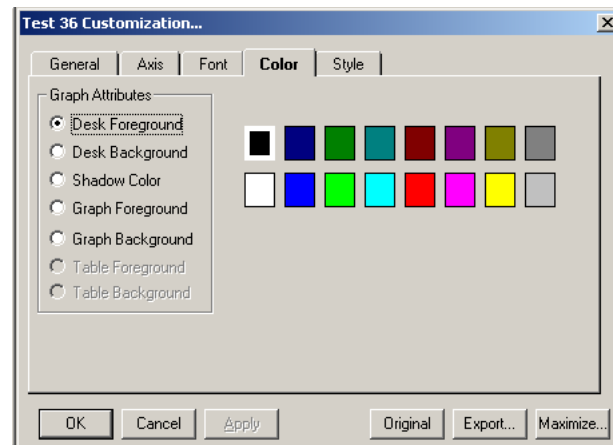

Figure 5-91 Customization Dialog Box—Color Tab
- **Color Tab**—Use the Color tab to define the various color parameters on the analysis graph. See Figure 5-91.